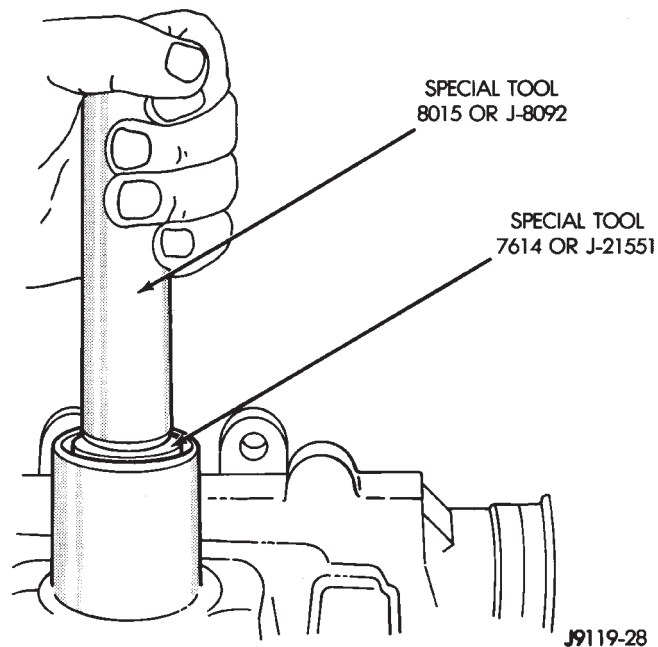

Fig. 37 Pitman Shaft Bearing Installation
(1) Install needle bearing into housing (Fig. 37).